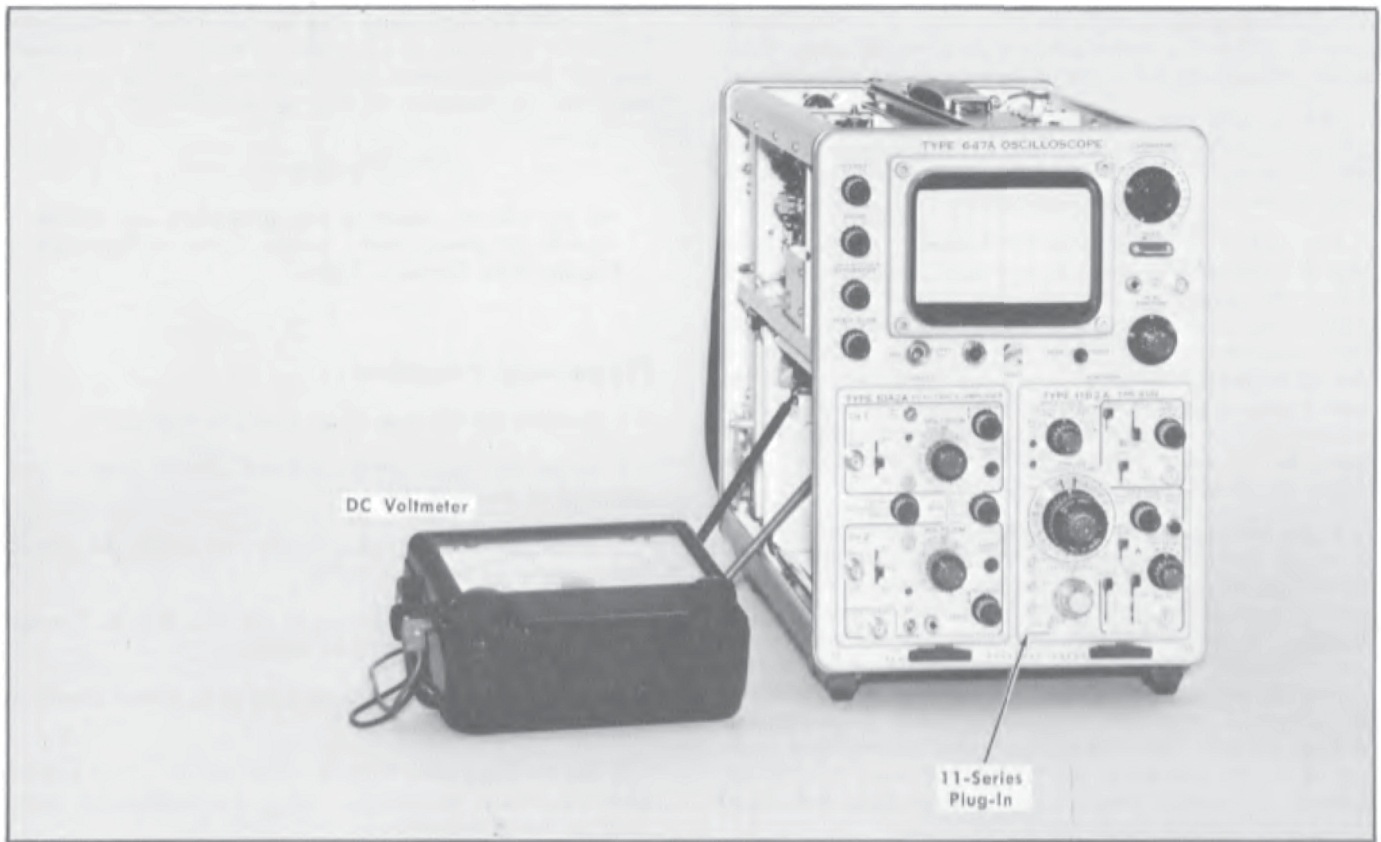

Fig. 6-2. Initial test equipment setup for steps 1 through 6.
1. Adjust Channel 1 and 2 Common Mode Current Main, Amplifier Current and Main Amplifier Differential Current (Preliminary Adjustment) ①
- a. Test equipment setup is shown in Fig. 6-2.